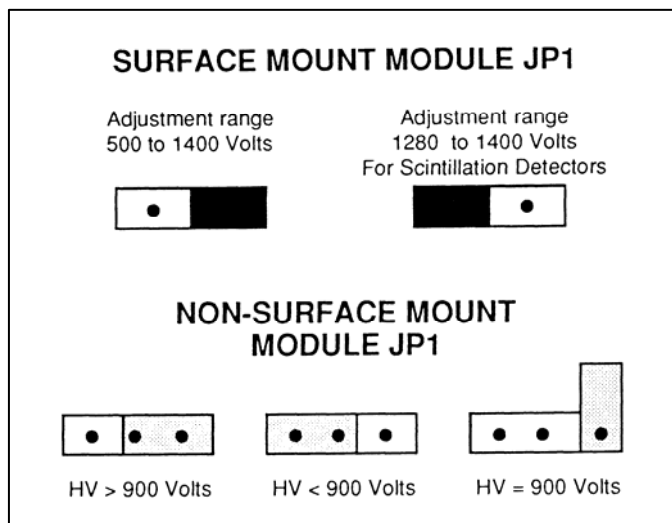

Figure 3-6. High Voltage Jumper Positioning
3. Position the jumper as required for either a surface mount or non-surface mount module by referring to Figure 3-6.